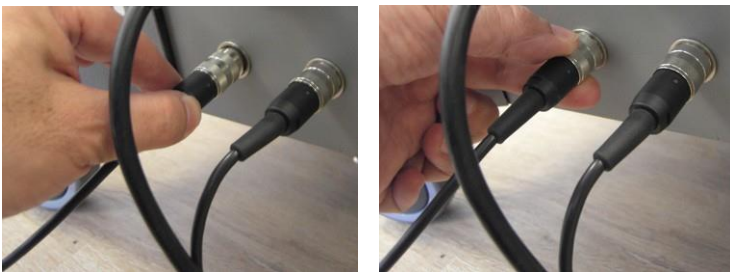

Figure 3-29. Connecting the Right Footswitch's Cable to its Connector on the System's Rear Side
3. Connect the footswitch connector to its receptacle, by inserting the connector and screwing it in, as shown in Figure 3-29.